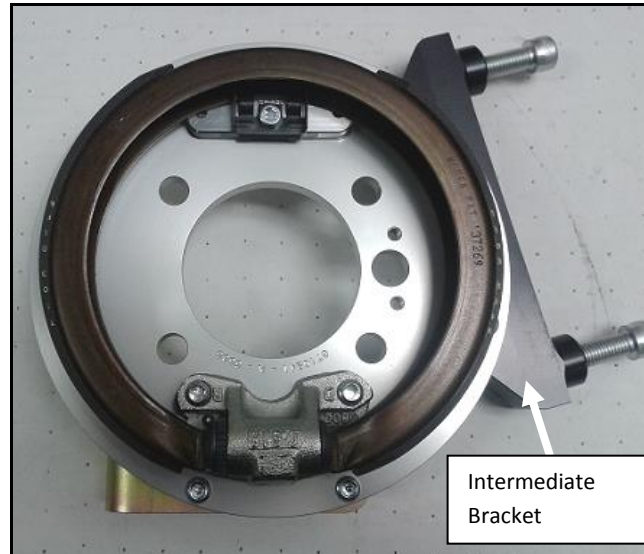

Figure 1: Baer banksia assembly (drivers side)
2. Install the Baer banksia plate assembly (Figure 1). The assembly comes with the Baer intermediate bracket attached to the inboard side of the plate. The bracket bolts are just snugged as they will need to be removed for shimming later in the install.